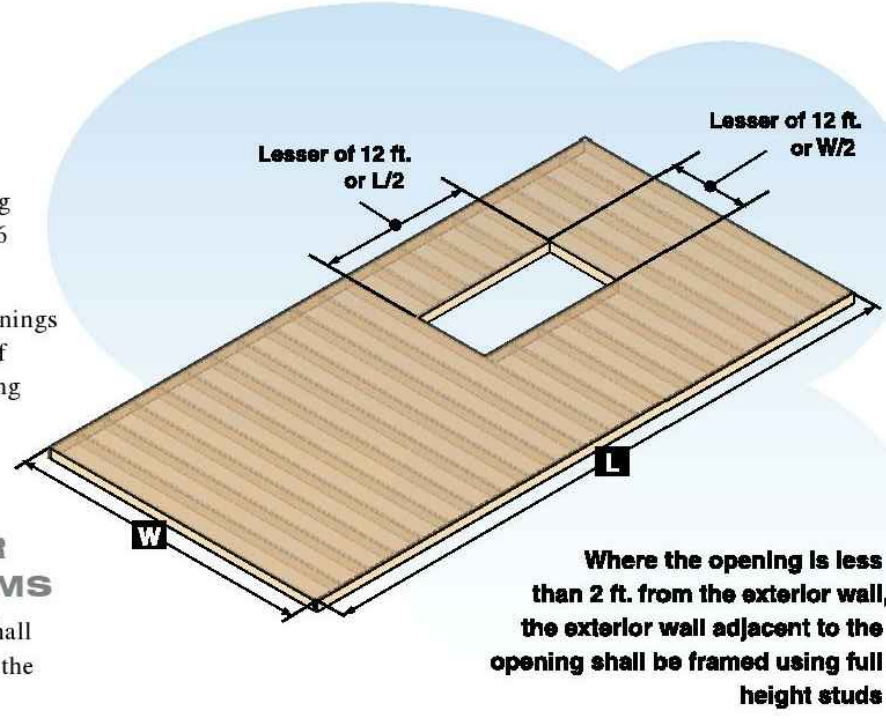

Figure 6. Floor Diaphragm Opening Limits
- Floor Openings.** Floor openings shall not exceed the lesser of 12 feet or 50% of the building dimension (See Figure 6).